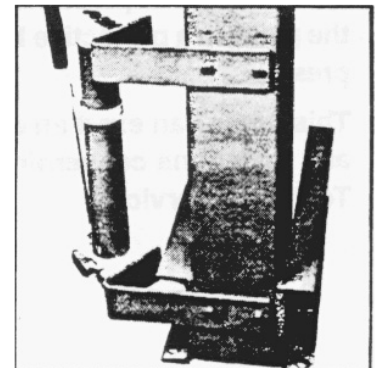

FIG. 6
9. Determine which of the mounting holes (see FIG. 6) are correct for your pump. Mount the two pump mounting brackets using the four 5/8" cap screws.
10. Fasten the pump to the pump mounting brackets using the four 5/16" nuts and cap screws, see FIG. 6.